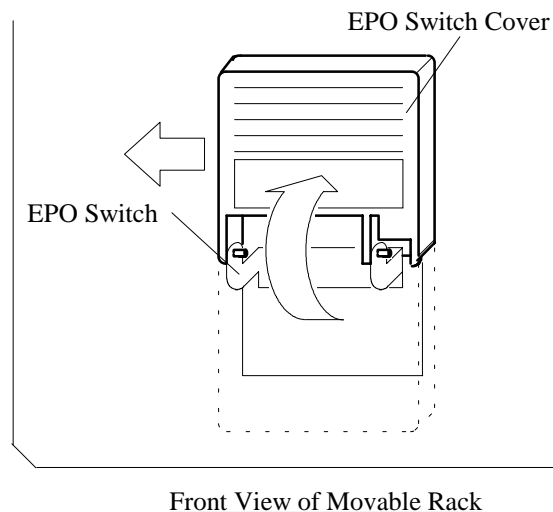

Fig. 3.11-2 Removal of EPO Switch Cover
- i. Attach the EPO Switch cover. Refer to Fig. 3.11-2.